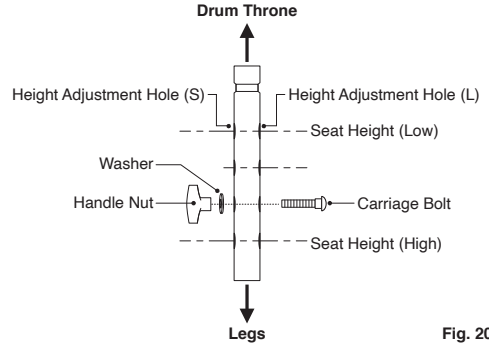

Fig. 20
1. Insert the carriage bolt into one of the large height adjustment holes in the upper pipe, insert the washer onto the bolt on the other side, and lightly secure it with the handle nut (Fig.20).